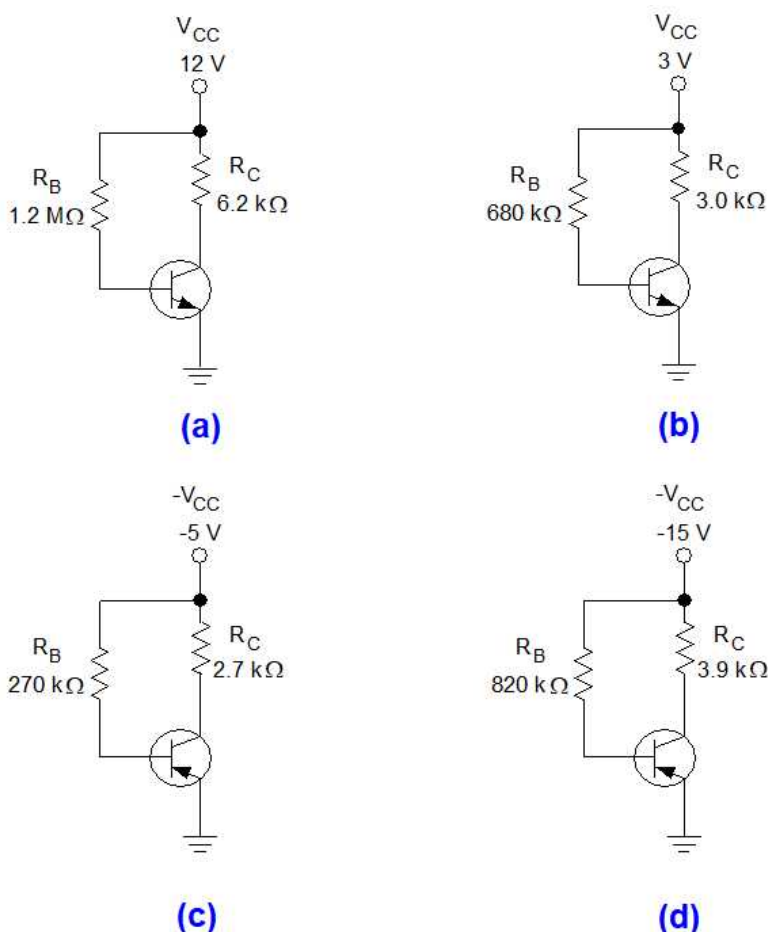

Figure 5-47.
- 5-56 Find the Q-point of the common-emitter transistor given in Fig. 5-47(a). Specifically, find I_B , I_C , V_{CE} , and V_{CB} . Also determine $I_{C(SAT)}$ and $V_{CE(OFF)}$. Indicate the actual conventional current directions on your schematic diagram. The BJT has an β_{DC} of 100.
- 5-57 Find the Q-point of the common-emitter transistor given in Fig. 5-47(b). Specifically, find I_B , I_C , V_{CE} , and V_{CB} . Also determine $I_{C(SAT)}$ and $V_{CE(OFF)}$. Indicate the actual conventional current directions on your schematic diagram. The BJT has an β_{DC} of 150.
- 5-58 Find the Q-point of the common-emitter transistor given in Fig. 5-47(c). Specifically, find I_B , I_C , V_{CE} , and V_{CB} . Also determine $I_{C(SAT)}$ and $V_{CE(OFF)}$. Indicate the actual conventional current directions on your schematic diagram. The BJT has an β_{DC} of 60.
- 5-59 Find the Q-point of the common-emitter transistor given in Fig. 5-47(d). Specifically, find I_B , I_C , V_{CE} , and V_{CB} . Also determine $I_{C(SAT)}$ and $V_{CE(OFF)}$. Indicate the actual conventional current directions on your schematic diagram. The BJT has an β_{DC} of 110.